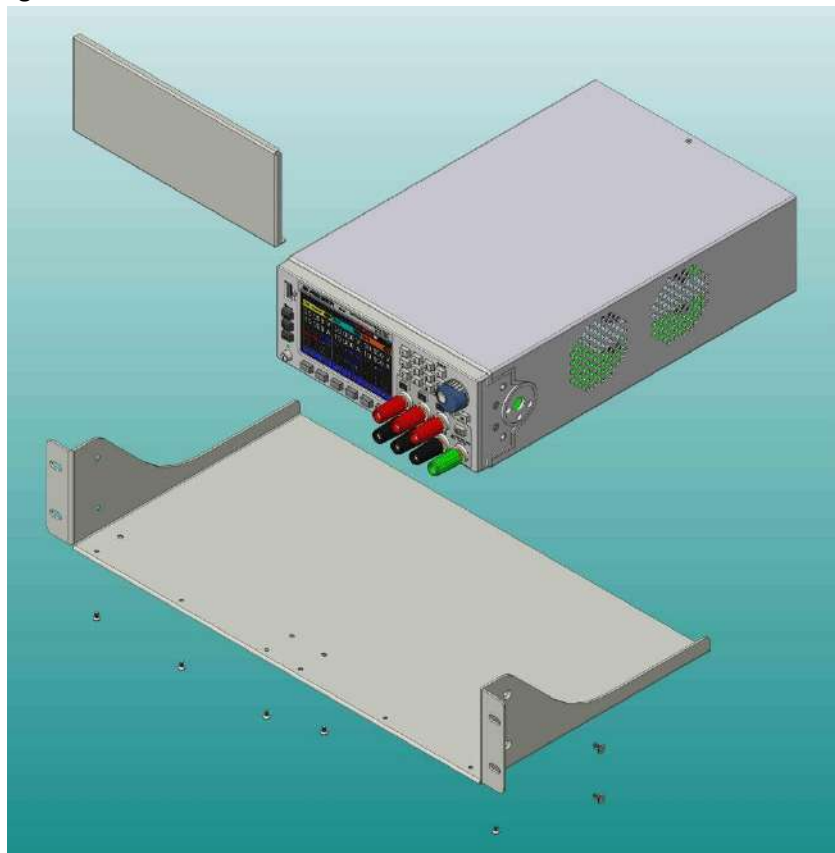

Figure 6: Single instrument mounting with blank
Step 2. Place the instrument in the rack and align the mounting holes. A blank is provided for single instrument mounting (Fig. 6). The blank is held in place using 3 of the provided mounting screws through the bottom of the rack.